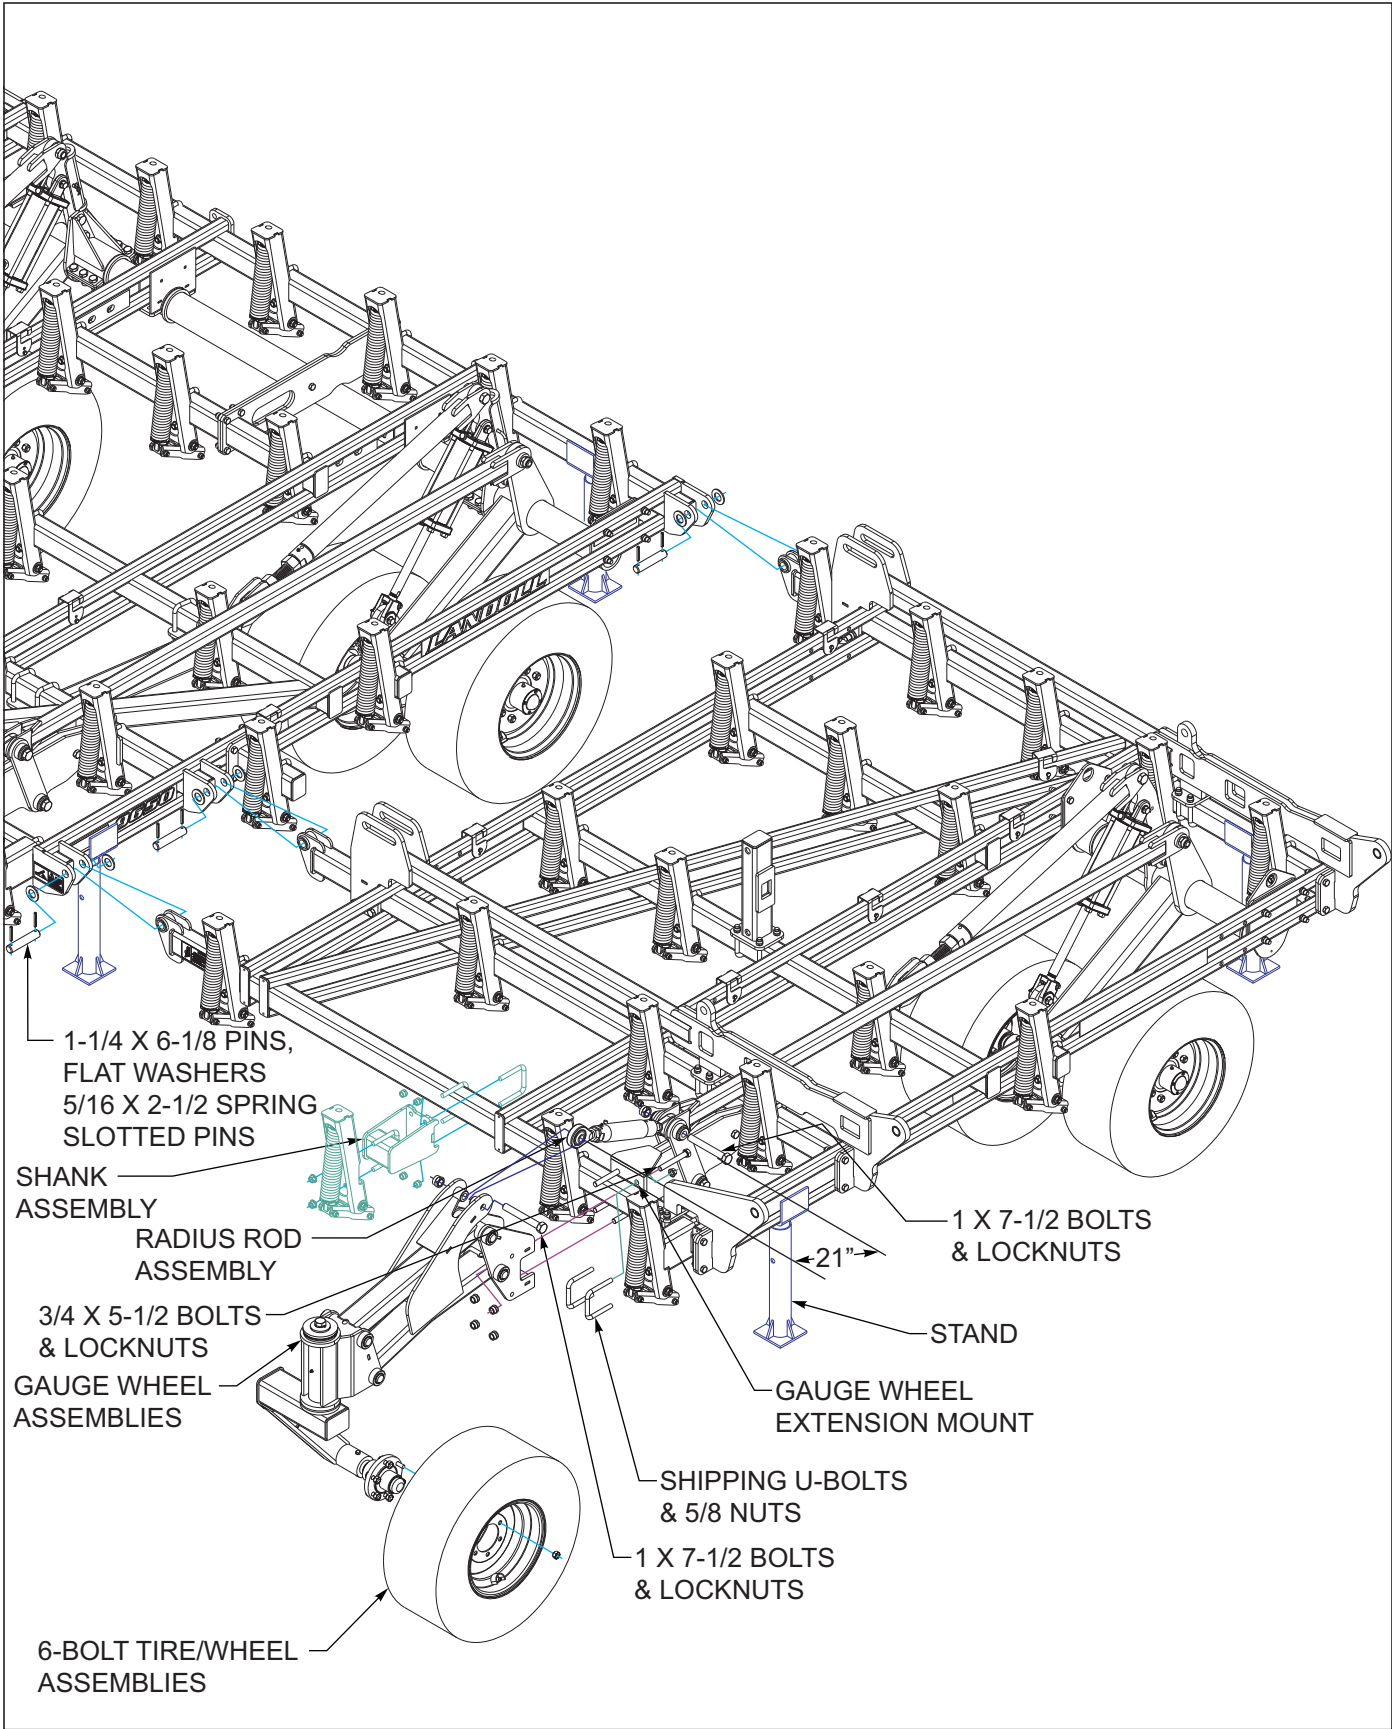

Figure 3-5: Inner Wing Assembly
1. Attach inner wing frames to center frame using 1-1/4 flange bearings, flat washers, 1-1/4 x 6-1/8 pin and 5/16 x 2-1/2 spring slotted pins See Figure 3-5.
1. Remove the shipping u-bolts and nuts from front of the gauge wheel extension mounts See Figure 3-5.